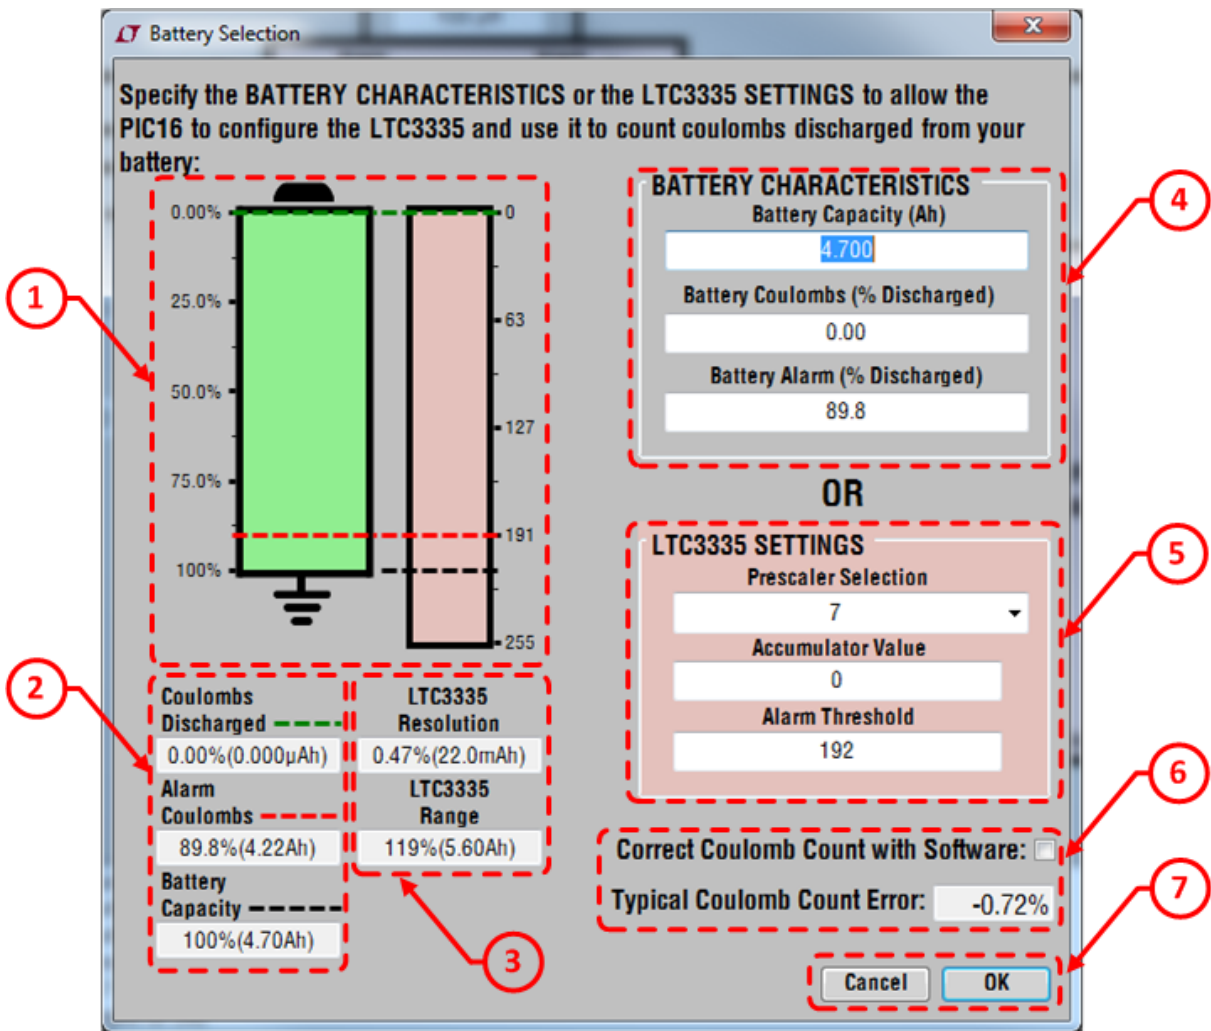

Figure 8. Battery Selection Window
5. Set PS1 to 5V. The DC2343A will see battery voltage and flash the green LED with a 1 second period. The GUI will then launch the window in Figure 8 to ask for a battery description. Typically the characteristics of an actual battery would be entered. For a quick demonstration of the LTC3335, however, enter these values to simulate a very small battery with power supply PS1:
The Battery Selection Window allows the user to specify the battery that they have connected to the DC2343A. This information is necessary for the GUI to properly configure the LTC3335, and interpret the values read from the IC. This window will automatically popup the first time that a battery is attached to the DC2343A. Note that none of the values in this value will be written to the LTC3335 until the OK button is pressed, allowing experimentation by the user to see the relationship between their battery characteristics and the LTC3335 settings. The features of this window are shown in Figure 8.